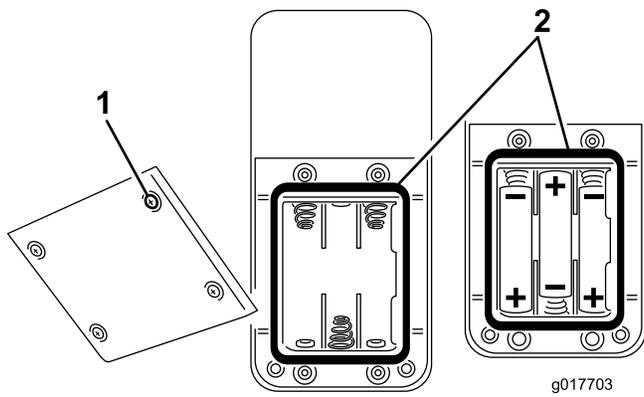

Figure 32
2. If installing batteries in an empty battery compartment, install three fresh size AAA batteries. Be sure to position the batteries as shown in Figure 32.
3. If replacing expired batteries, remove the old batteries and install three fresh size AAA batteries. Be sure to position the batteries as shown in Figure 32.